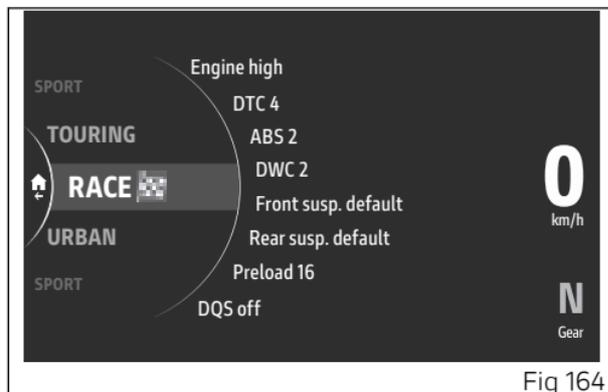

Fig 164
- System opens the specific page (Fig 164) from which it is possible to scroll the available Riding Mode and view their parameters, together with the relevant settings, by means of joystick ▲ ▼.